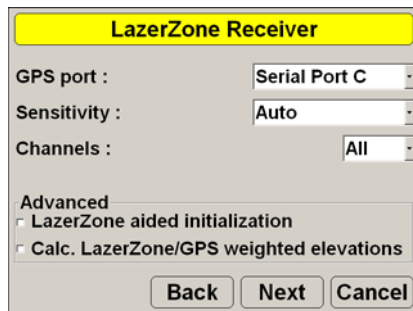

Figure 7-9. Select LazerZone Information
6. Select Lazer Zone information (Figure 7-9 on page 7-13) and press **Next**: